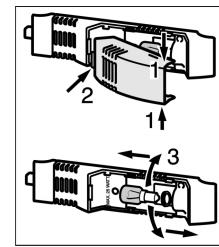

Fig. 8
- Take hold of the light cover at the top and bottom Fig. 8 (1).
- Unclip light cover Fig. 8 (2) at the back and unhook.
- Replace the light bulb Fig. 8 (3).